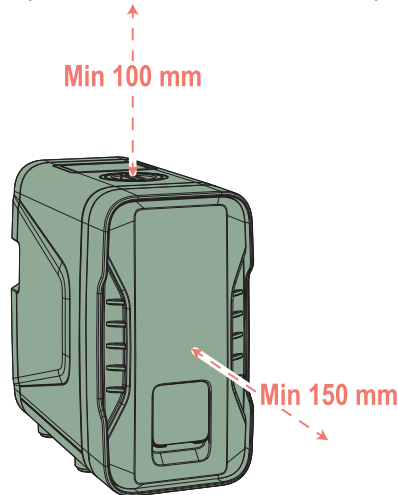

Fig. 9 Minimum clearances to be ensured
- a minimum clearance of 10 cm above the pump to allow the non-return valve to be removed for cleaning (see Fig. 9).
- a minimum clearance of 15 cm in front of the pump to allow access to the motor shaft (see Fig. 9).